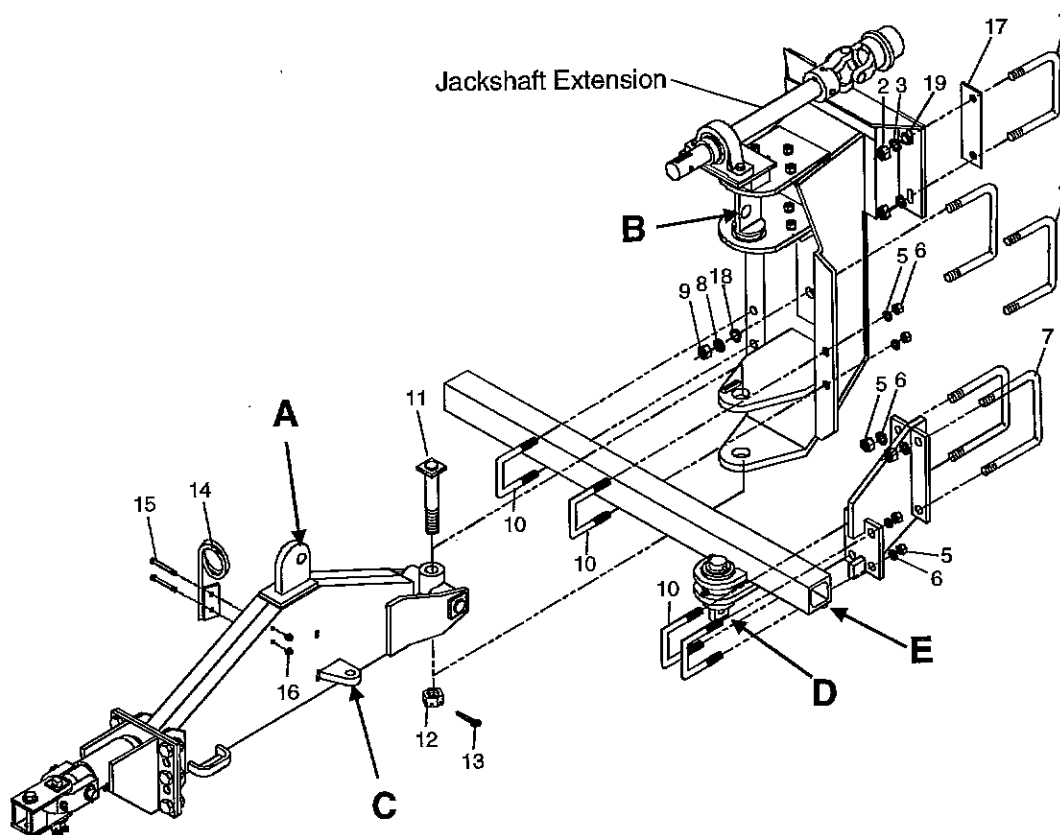

Figure 71. Hitch Installation
For the following procedures, refer to Figure 71.
2. Install the 5" diameter x 8" stroke hydraulic depth control (lift) cylinder. Position the upper cylinder pin (Figure 71-B) so the hole is closest to the front of the machine. Using the clevis pins in the cylinder ends, attach the cylinder's rod end to this pin. Attach the fixed end of the cylinder to mounting hole (Figure 71-A).
3. Install the 4" diameter x 8" stroke hydraulic row finder cylinder by first extending the rod to the center of its stroke. Then position the hitch to the center of the row (or to the right if offsetting one row). Using the clevis pins provided in the cylinder, install the rod end of the cylinder to the harvester tongue (Figure 71-C). Loosen the U-bolts on the steering cylinder mounting tube (Figure 71-E) and adjust the tube left or right until the fixed end of the cylinder can be easily installed in its mounting pin (Figure 71-D). Tighten the U-bolts on the steering cylinder mounting bracket as shown in Figure 22, page 27.